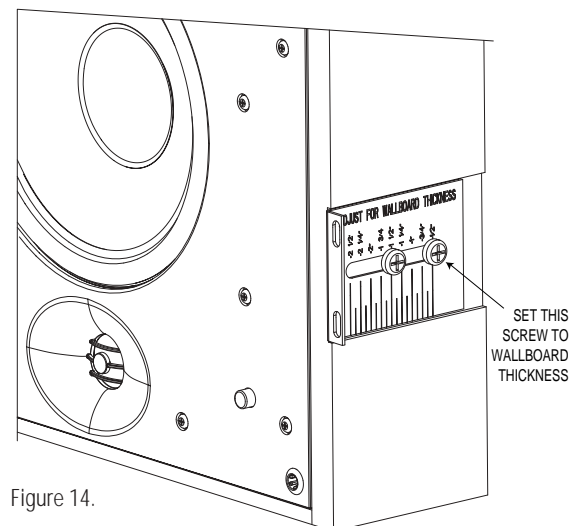

Figure 14.
The speakers are directly attached to the mounting L-brackets with hardware supplied in the speaker packing box, and can be adjusted for proper mounting depth with a variation of up to 2-1/2 inches. The actual depth will vary depending on wall construction and acoustic materials applied to the wall surface (see Figure 14). To flush-mount the grille to the wall surface, the speaker must be recessed in the wall no more than 1/4 inch. The grille pins fit directly into the speaker cabinet via receiver bushings with 15 ft/lb of tension per pin. Use the marked speaker-depth-indicator flanges (attached to the sides of the speaker baffle) to appropriately adjust the depth from the wall surface so that the baffle is recessed 1/4 inch. This will ensure that the grille will sit flush to the wall surface.
**OPTION 1 – NEW CONSTRUCTION:** The S4PCB mounting-flange bracket must be installed before the drywall is installed in the room. Attach the included L-brackets to the speakers (see Figure 14), and attach them to the mounting flanges at the appropriate recessed distance. The S4VC and S4HC require a minimum 6" wall depth. The S4A requires a minimum 4" wall depth (see Figures 15, 16 and 17).